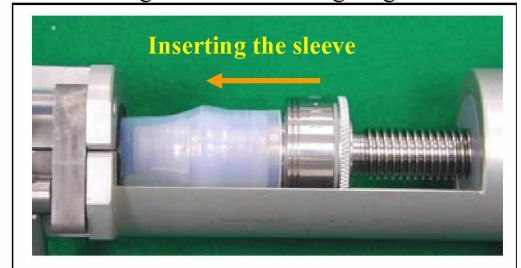

Fig. 53 - Inserting the sleeve
- Turn the grip clockwise to insert the sleeve into the tube (see Fig. 53).